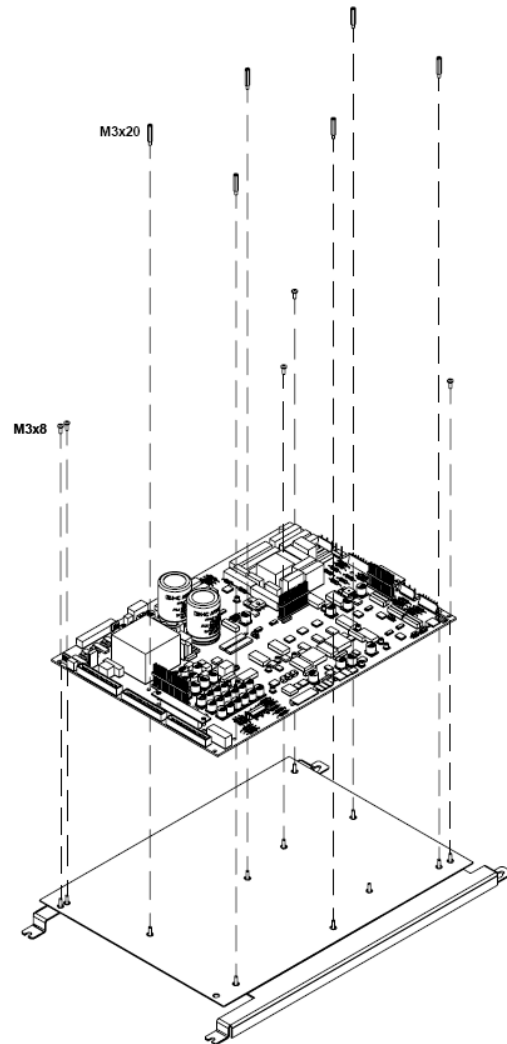

Figure 7.4.7. Disassembly of the power board
- 5) Put the board on the electronic tray, matching the bolts of the tray with the holes of the board (see figure 7.4.7).
Before proceeding, you should remove the embellishers (see section 7.4.1), the tray for the boards (see figure 7.4.7), the pluggable PCB of the trigger thyristors (see section 7.4.7) and the bars for the connections to the thyristors (see figure 7.4.10 a).
Before proceeding, you should remove the embellishers (see section 7.4.1), the tray for the boards (see figure 7.4.7), the pluggable PCB of trigger thyristors (see section 7.4.7), and the power connections board (see figure 7.4.10).
Before removing the upper Gate Drive board, you should remove the embellishers (see section 7.4.1) and the tray for the boards (see figure 7.4.7).
Before removing the IGBT's you should remove the embellishers (see section 7.4.1), the tray for the boards (see figure 7.4.7) and the upper gate drive board (see section 7.4.10).
Before removing the transformers, you should remove the embellishers (see section 7.4.1) and the tray boards (figure 7.4.7).